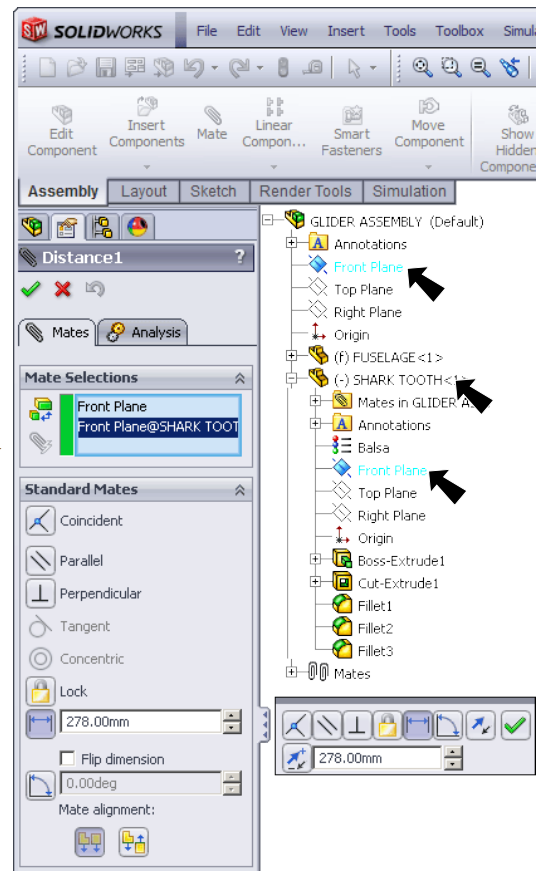

Fig. 10
Step 10. Expand the Design Tree (click +) in the top left corner of the graphics area, **Fig. 10**.
Step 11. Click **Front Plane** , **Fig. 10**.
Step 12. Expand **Shark Tooth** and click **Front Plane** , **Fig. 10**.
Step 13. Click **Distance**  in Mate pop-up, **Fig. 10**. Set distance to **278** and click Add/Finish Mate  to add the **Distance** mate.